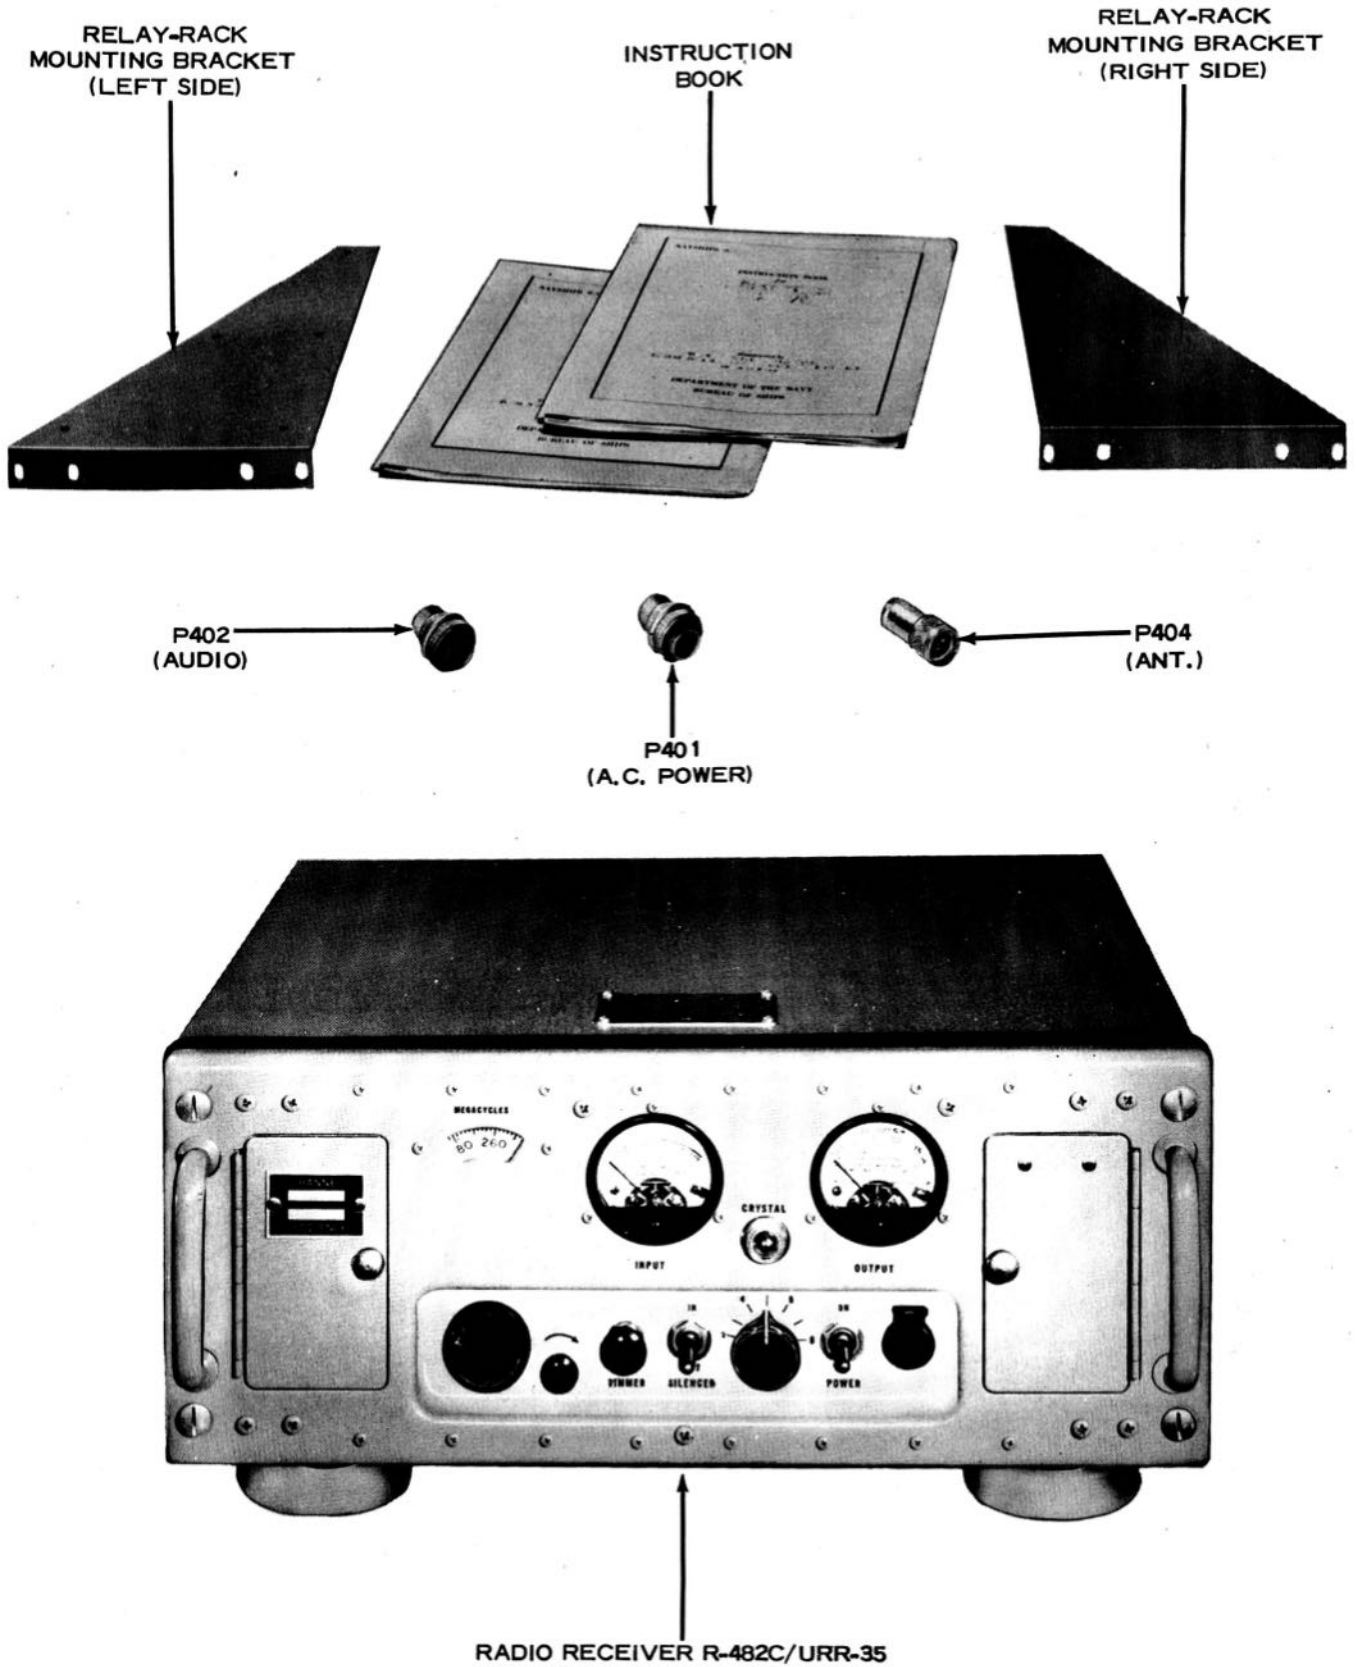

Figure 1-1. Radio Receiving Set AN/URR-35C
c. EQUIPMENT ARRANGEMENT.—Radio Receiving Set AN/URR-35C is shown in figure 1-1. It consists of Radio Receiver R-482C/URR-35, a pair of auxiliary angle brackets for relay-rack mounting, three plugs to mate with receptacles on the receiver for external connections, and two copies of the instruction book. The receiver proper consists of a panel, frame and chassis assembly housed in a cabinet fitted with shockmounts. The equipment may be mounted on a bench or other firm horizontal surface, or (after attaching brackets) in a standard 19-inch relay rack.
Connector plugs P401, P402, and P404 (see figure 1-1) are supplied with the equipment for use as required. A-c power is supplied through P401 and J401. The audio output signal is applied to a 600-ohm line through P402 and J402. The input signal from the antenna is brought into the receiver through P404 and J404. In each case, external cables must be fabricated using these connectors, to fit local conditions.